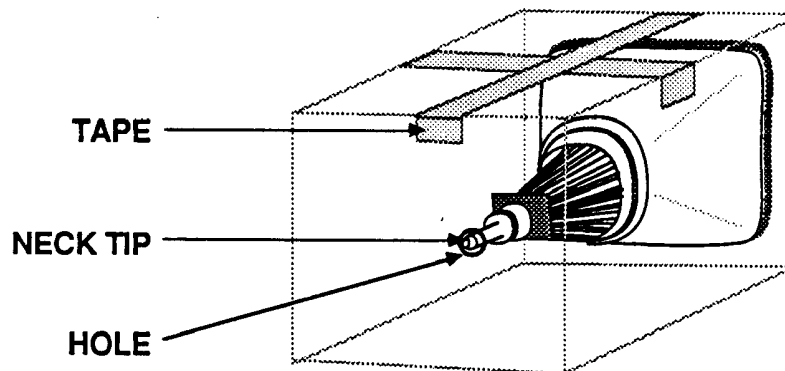

FIGURE 8
3. Place the CRT inside the box with the tip of the neck protruding through the hole, and tape the box flaps down with duct tape (Figure 8).